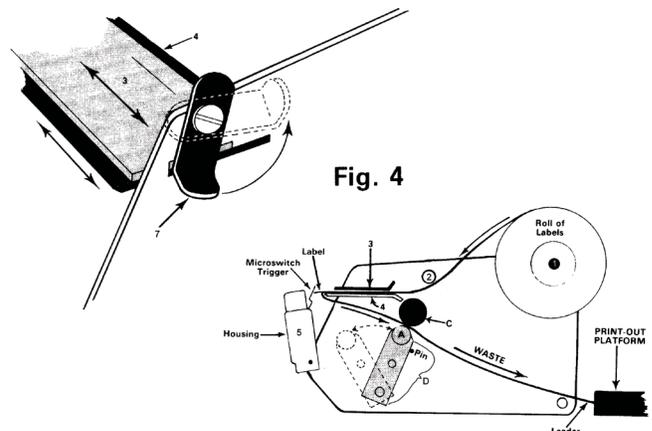

Fig. 4
12. Wash rollers (A) and (C) with lighter fluid (Ronson or similar product) to remove build-up of adhesive when necessary. Cleaning roller is necessary only if you encounter backing paper slippage when advancing. Plates (3) and (4) can both be easily removed from unit for cleaning. Rotate table latch (7), slide tables (3) and (4) to the right, then lift the left side of the tables to remove them from the machine. Refer to (figure 4).